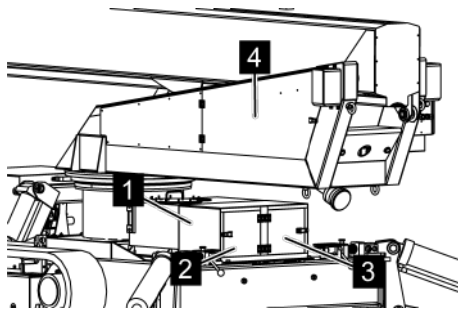

Fig. 133: Shuttle valve cover
2. ➔ Open doors (Fig. 133/2 and 3) or completely and remove the cover (Fig. 133/1).
3. ➔ Open the door (Fig. 133/4).